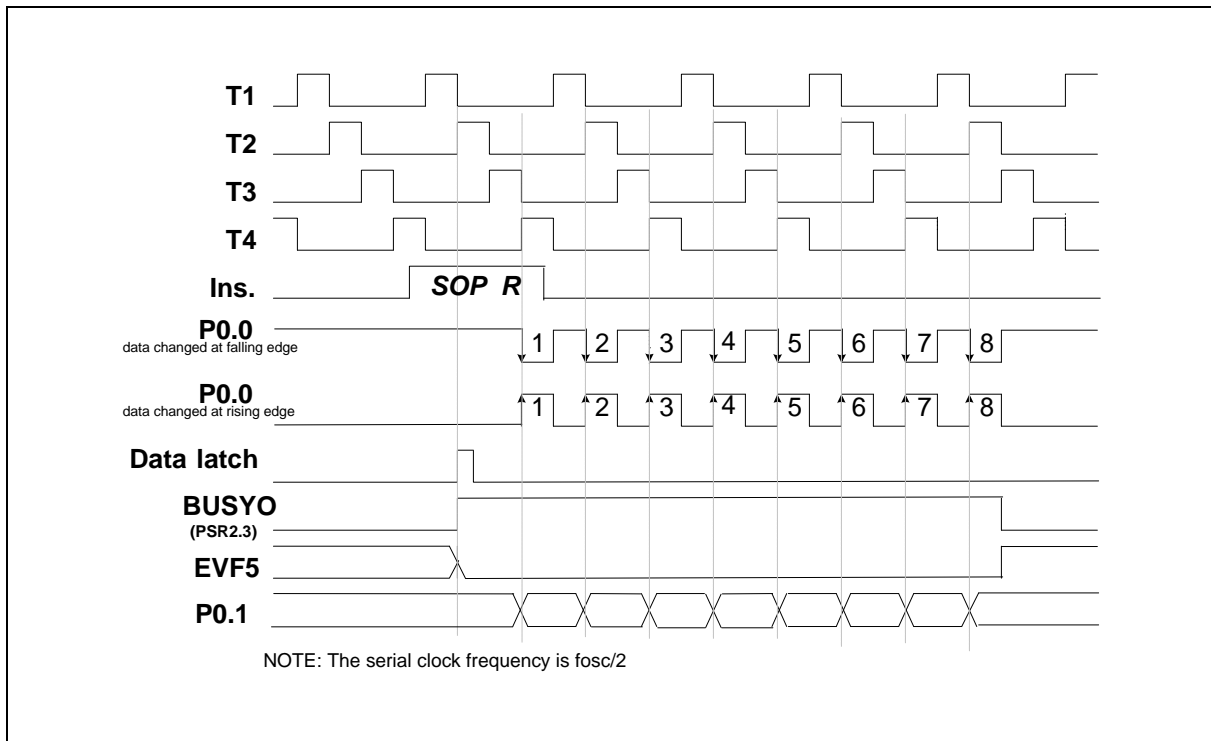

Figure 5-13 Timing of the Serial Output Function (SOP R)
- (2) When the **SOP R** instruction is executed, the data will be loaded to the serial output buffer (SOB) from ACC and the RAM, the low nibble data of SOB is from ACC register and the high nibble data is from RAM, and bit 3 of port status register 2 (PSR2) will be set to "1" ($BUSY_o = 1$). Then the P0.0 pin will send out 8 clocks or accept 8 clocks from external device and the data in SOB will be sent out at the rising or falling edge of the P0.1 pin. After the 8 clocks have been sent, $BUSY_o$ will be reset to "0" and EVF.5 will be set to "1." At this time, if IEF.5 has been set ($IEF.5 = 1$), an interrupt is executed; if HEF.5 has been set ($HEF.5 = 1$), the hold state is terminated. Users can check the status of PSR2.3 ($BUSY_o$) to know whether the serial output process is completed or not. If a serial output process is not completed, but the SOP R instruction is executed again, the data will be lost. The timing is shown in Figure 5-13.